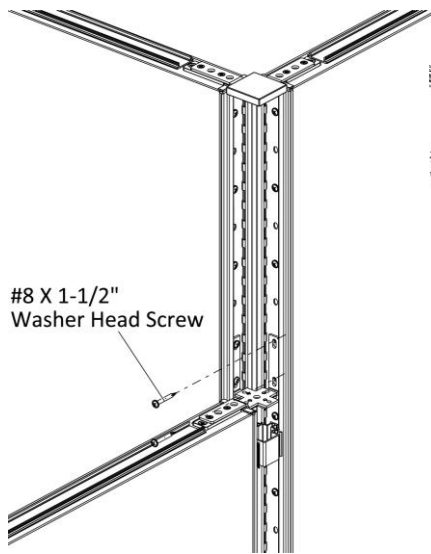

Figure 9
- 16.** Drive two #8 x 1-1/2" Washer Head Screws through the holes in the intermediate panel connector into the third panel, (Figure 9).